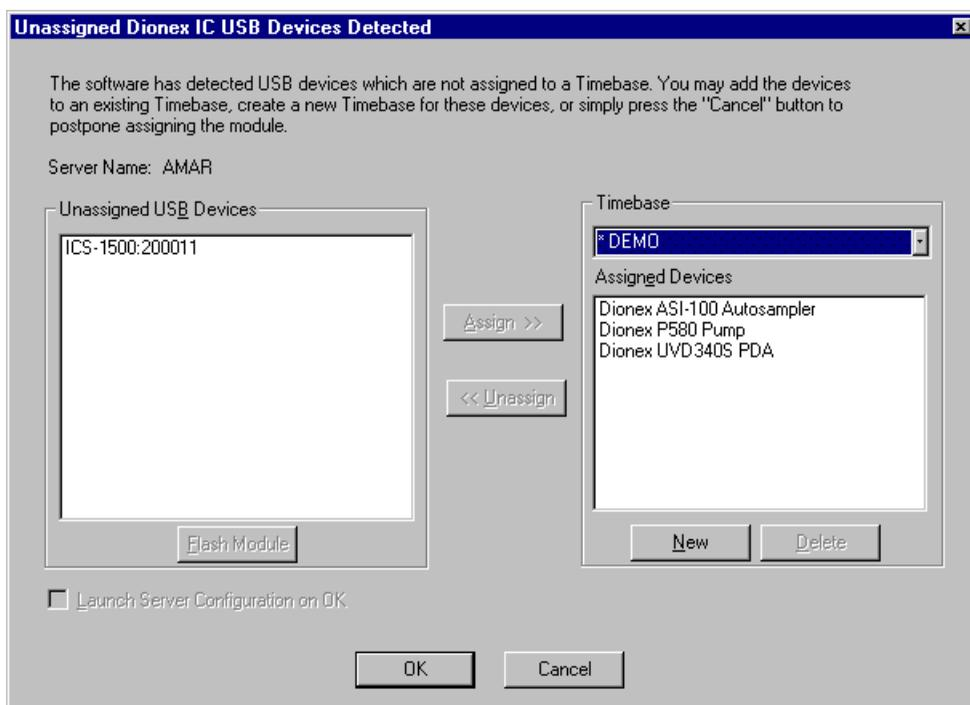

Figure B-10. ICS-1500 Unassigned to Timebase
3. The Unassigned USB Devices dialog box appears (see Figure B-10).